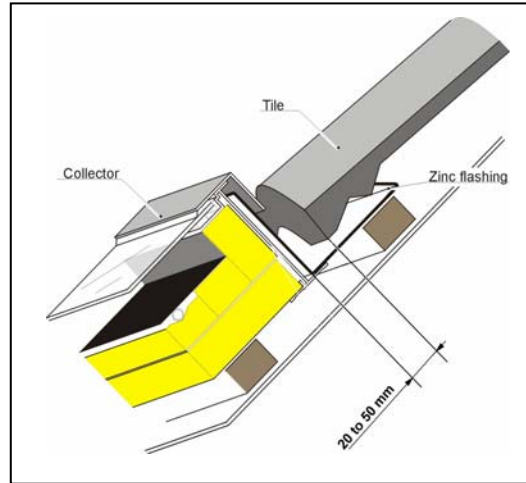

Figure 2.2
- 2.6 Install the side and top flashings (see Figures 2.2 & 2.3), ensuring that the top flashing sits on top of the side flashings. Use several stainless or galvanised roof sheeting screws down the side flashings into the battens, leaving them slightly proud, to hold the flashings in place. Hoist the solar panel cover to the roof. Firmly locate the flashings against the side of the panel by replacing the glazing cover. Re-secure the glazing frame with the screws. Ensure that the top flashing locates under the securing strip on the side flashing. Fold the lip to stop the side flashings sliding downwards.